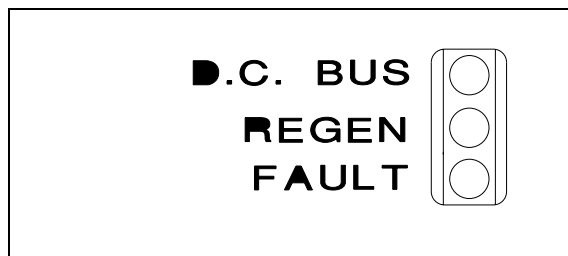

Figure 5.3. PSR4/5 50,75 Status LED's
The status of the PSR4/5-50 and 75 amp models is indicated by one (1) Green, one (1) Yellow, and one (1) Red LED. Refer to Figure 5.3 for the LED configuration. The diagnostic information indicated by these LED's is as follows: